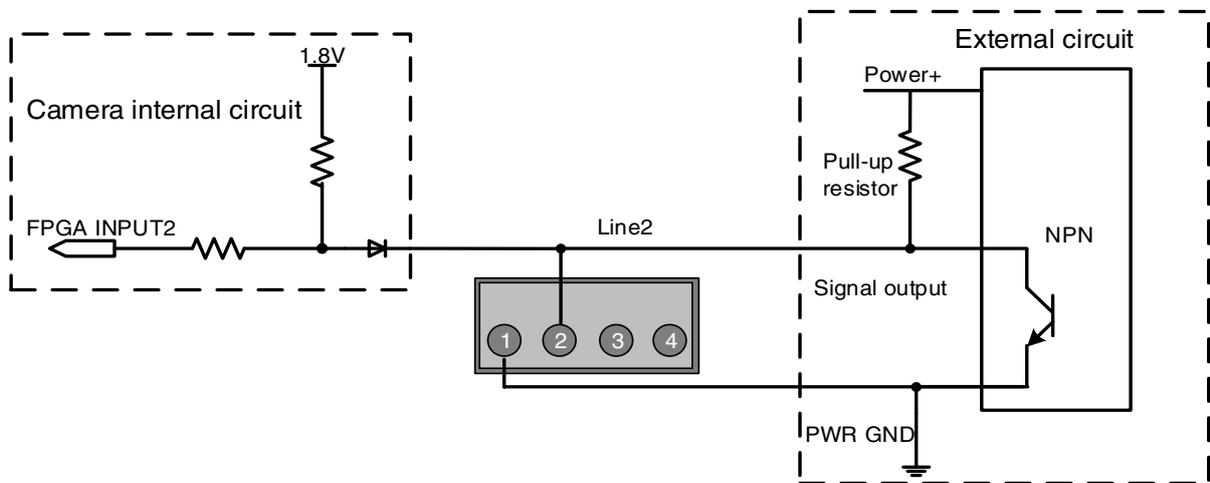
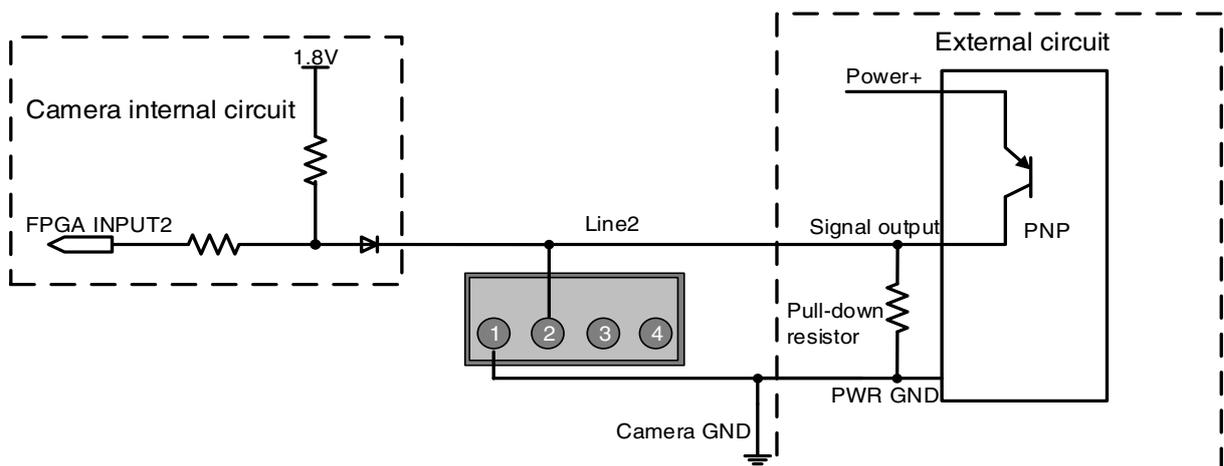

Figure 7-8 NPN photoelectric sensor connected to Line2 input circuit
Figure 7-9 PNP photoelectric sensor connected to Line2 input circuit
- When input of Line2 is high, input current is lower than 100μA. When input of Line2 is low, input current is lower than -1mA. The connection method between Line2 and NPN/PNP photoelectric sensors is shown in Figure 7-8 and Figure 7-9. The relationship between the pull-up resistor value and the external input voltage is shown in Table 7-6.